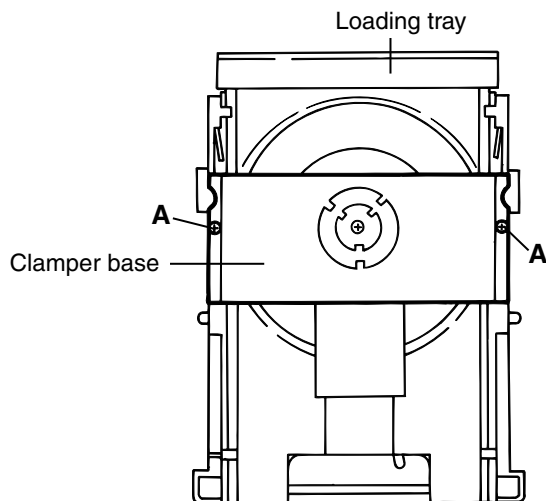

Fig.1
- 1.Remove the front panel assembly.(See Fig.1~5)
■ Removing the clamper base (See Fig.1)